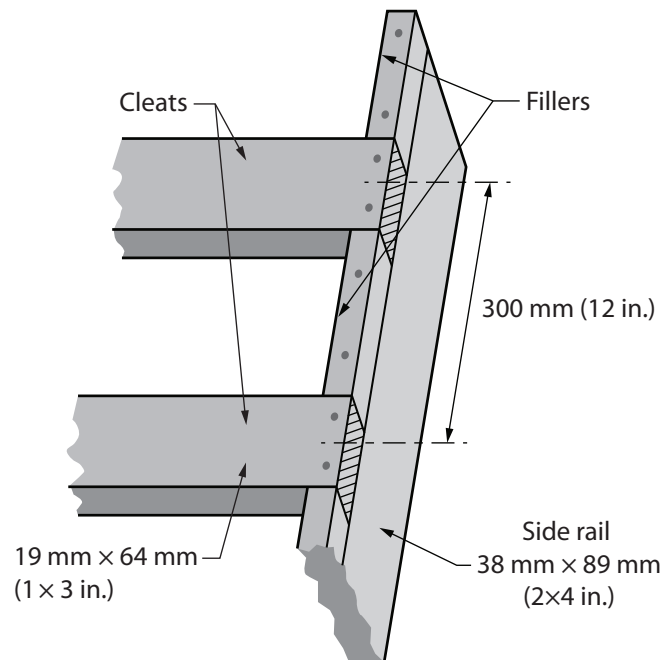

Figure 3 — WorkSafeBC standards for job-built straight ladders up to 5 m (16 ft.) long
Straight ladders are often built on the job site. Before using a job-built ladder, make yourself familiar with the relevant WorkSafeBC standard (Figure 3).
- Fill the spaces between the cleats with close-fitting, well-secured fillers, of the same thickness as the cleats (see Figure 3).